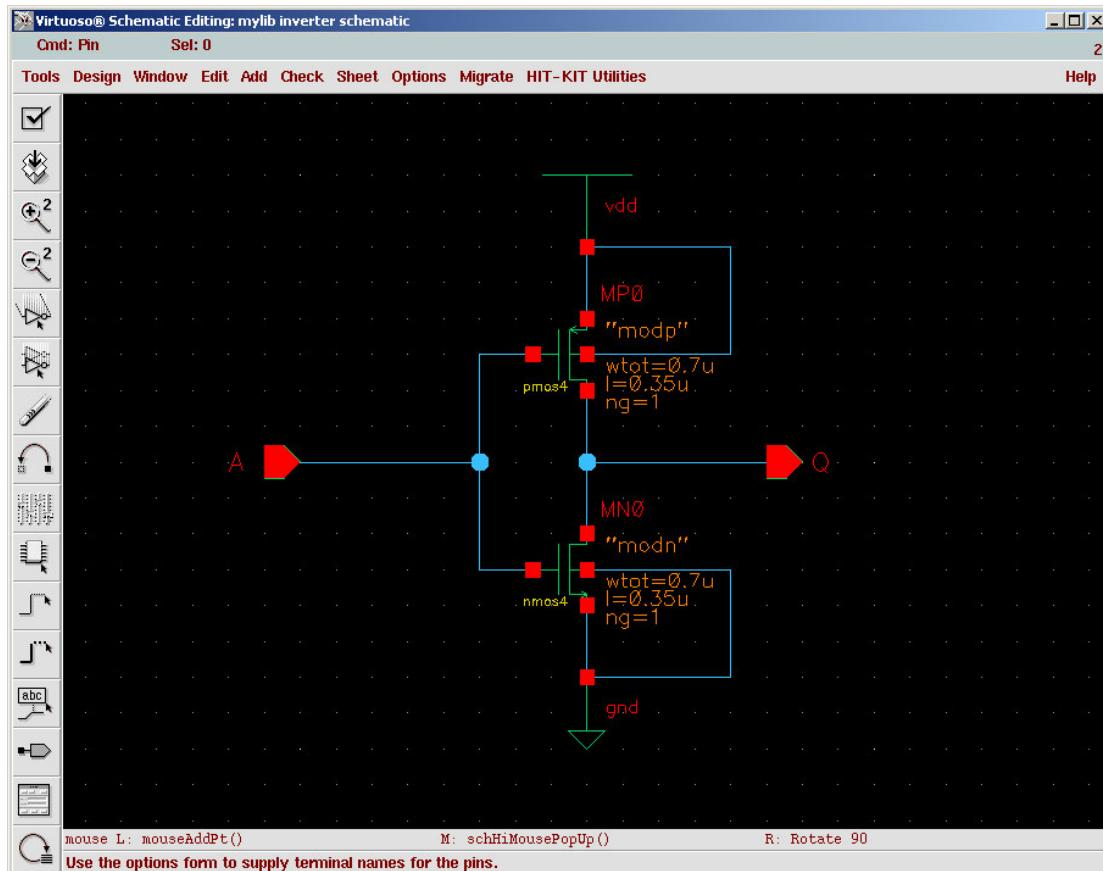

Figure 13. Inverter Schematic
15. Verify that your schematic looks similar to the one in Figure 13. Do not close the **Virtuoso Schematic Editor** until told to do so.